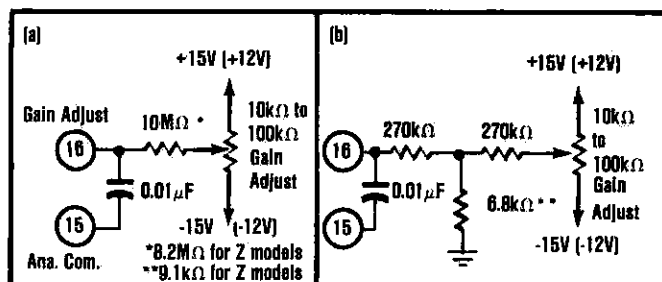

FIGURE 6. Two Methods of Connecting Optional Gain Adjust with a 0.6% Range of Adjustment.
**GAIN** - Connect the Gain adjust potentiometer as shown in Figure 6. Sweep the input through the end point transition voltage that should cause an output transition to all zeros.